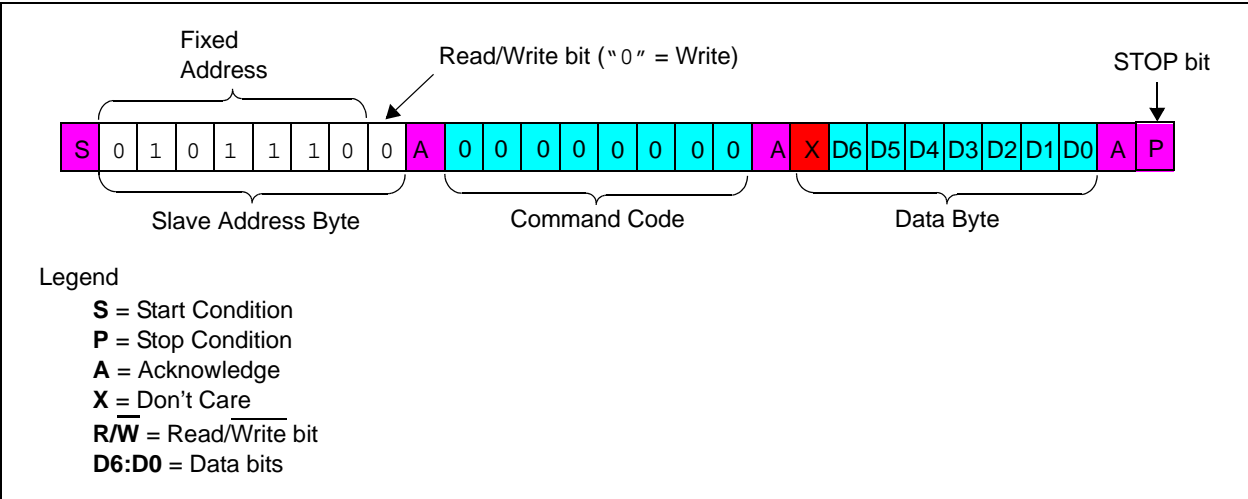
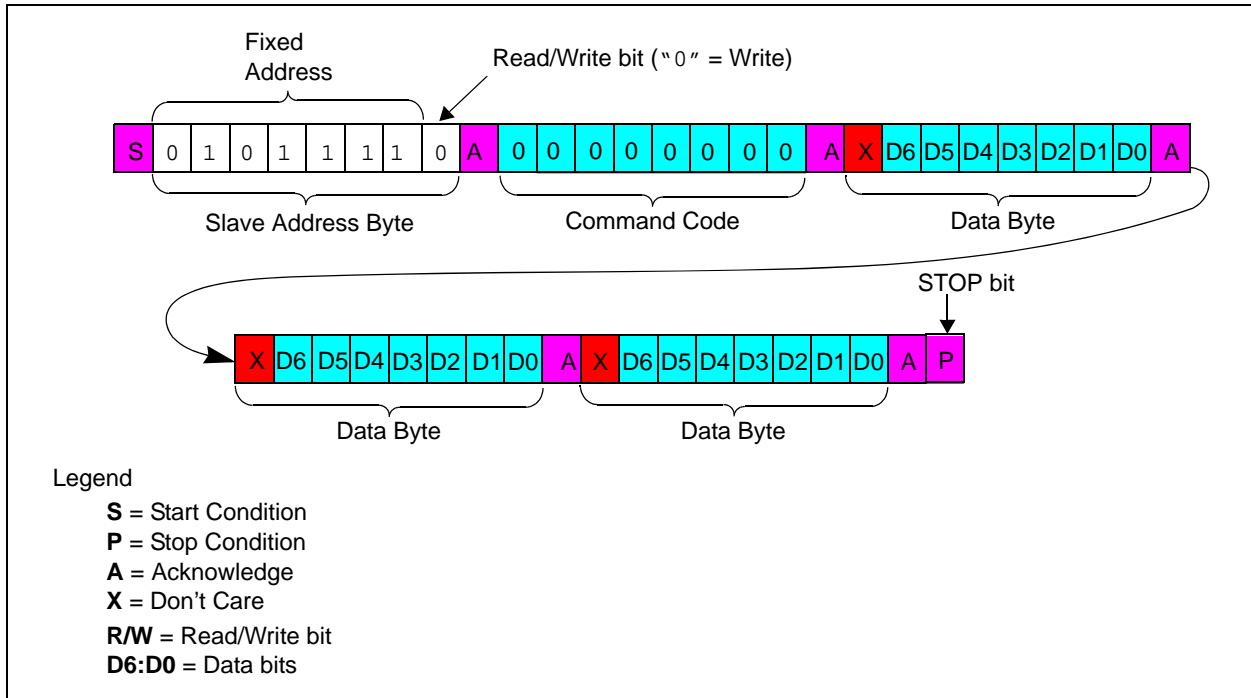

FIGURE 5-12: I²C Single Byte Write Command Format (Slave Address = "0101110").
FIGURE 5-13: I²C Write Command Format (Slave Address = "0101110").
Data bytes may be written after each Acknowledge. The command is terminated once a Stop (P) condition occurs. Refer to Figure 5-12 for the single byte write sequence and Figure 5-13 for the generic (multi-byte) write sequence. For a single byte write, the master sends a STOP or RESTART condition after the 1st data byte is sent.